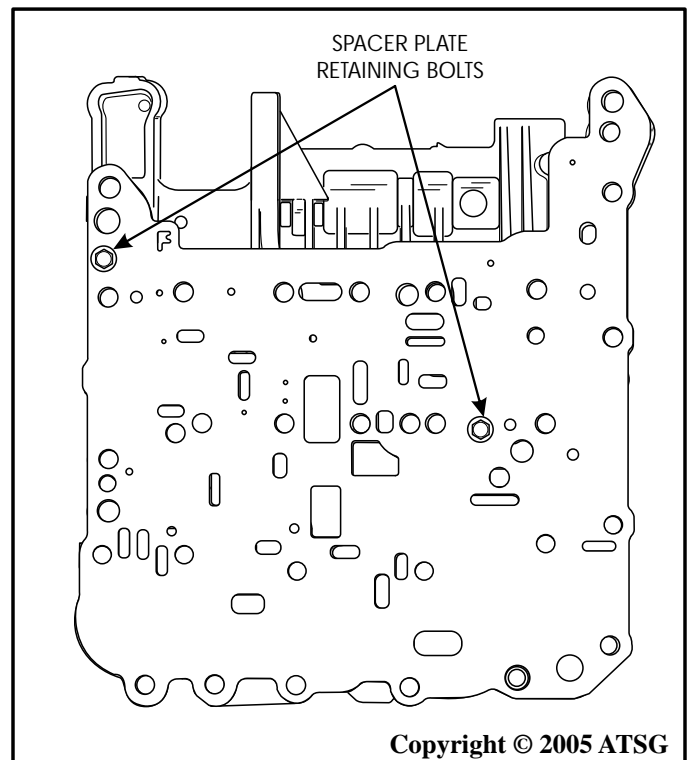

Figure 141
5. Turn the main valve body over and remove the two main spacer plate retaining bolts, as shown in Figure 141.